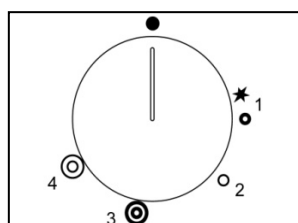

Fig.19
- **-Use of the dual burner (Fig19)**